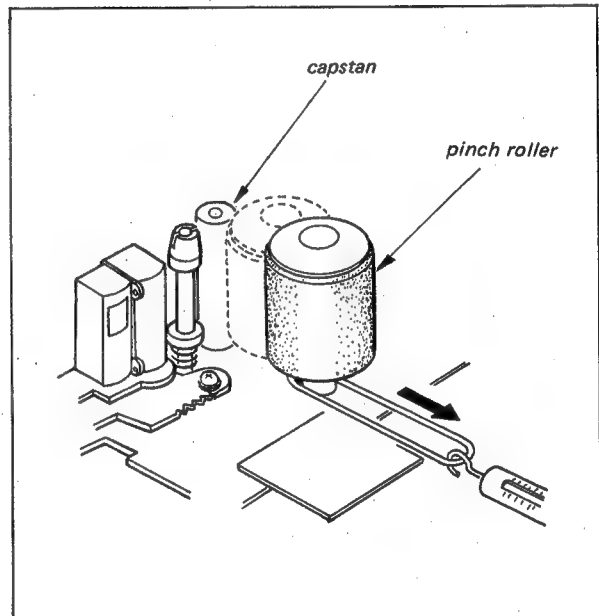

Fig. 4-32. Pinch roller pressure test
1. Set the FUNCTION selector to FORWARD. Make a loop in a piece of string and loop the string around the base of the pinch roller shaft. See Fig. 4-32. Attach the spring scale to the loop of string and pull the scale in the direction indicated by the arrow.